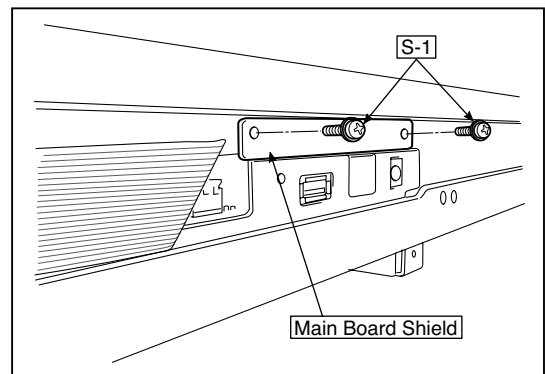

Fig.2
2.Remove the "S-1" screws shown in the figure 2 and then remove the Main Board Shield.